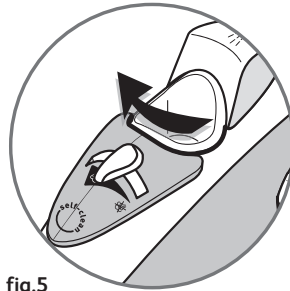

fig.5
- Set the steam control (fig.5) to the desired position, consulting the table below.